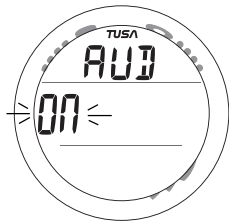

Fig. 37 - SET AUDIBLE
**Set Audible Alarm** information includes (Fig. 37):